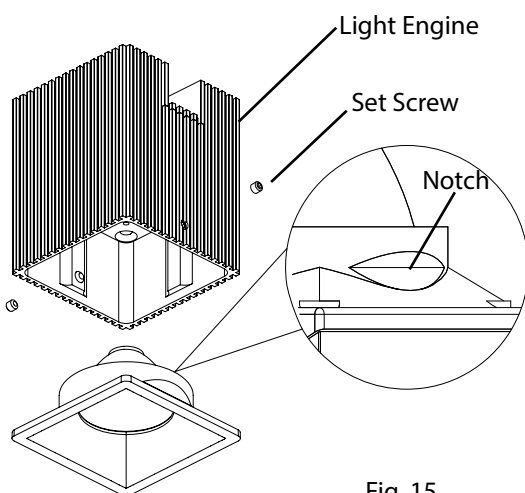

Fig. 15
1. Align **Trim** with **Light Engine**. Make sure to align the **Notch** on the Trim with the **Set Screw** on the Light Engine (Fig. 15).